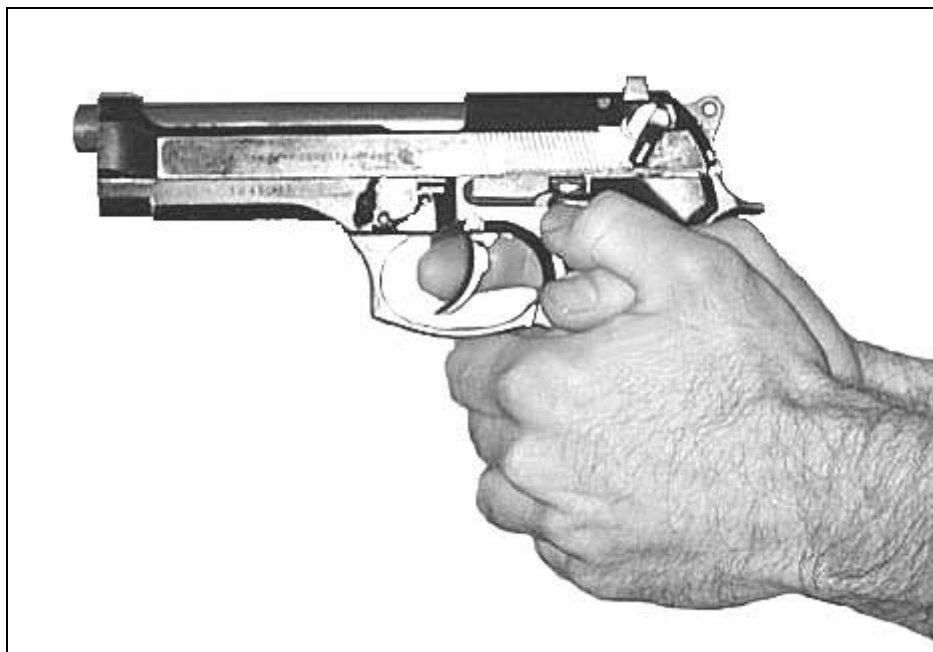

Figure 2-4. Weaver grip.
(3) **Weaver grip.** Apply this grip the same as the fist grip. The only exception is that the nonfiring thumb is wrapped over the firing thumb (Figure 2-4).